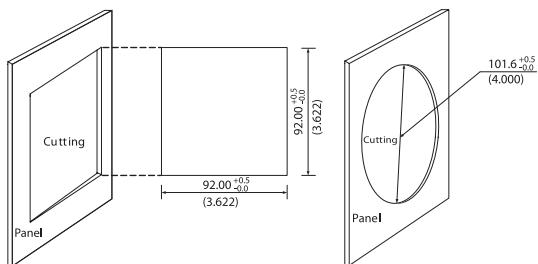

Figure 2.3: Panel cutting
1. Cut a square hole or round hole on the panel of the switch gear. The size of the panel is shown in fig 2.3.